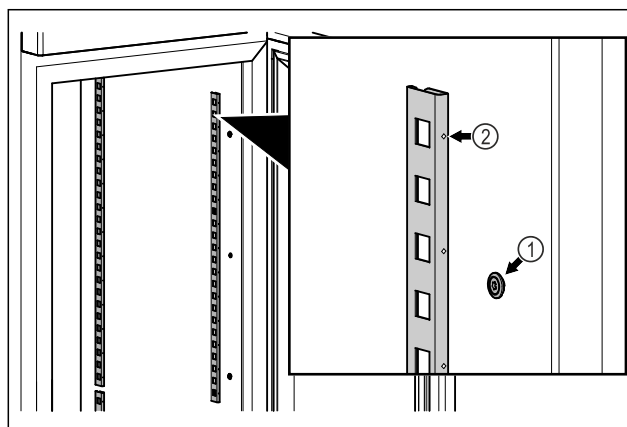

Fig. 58 Example illustration
- ▶ Hook the snap strips into the suspension Fig. 58 (1). Mark Fig. 58 (2) must point forwards.